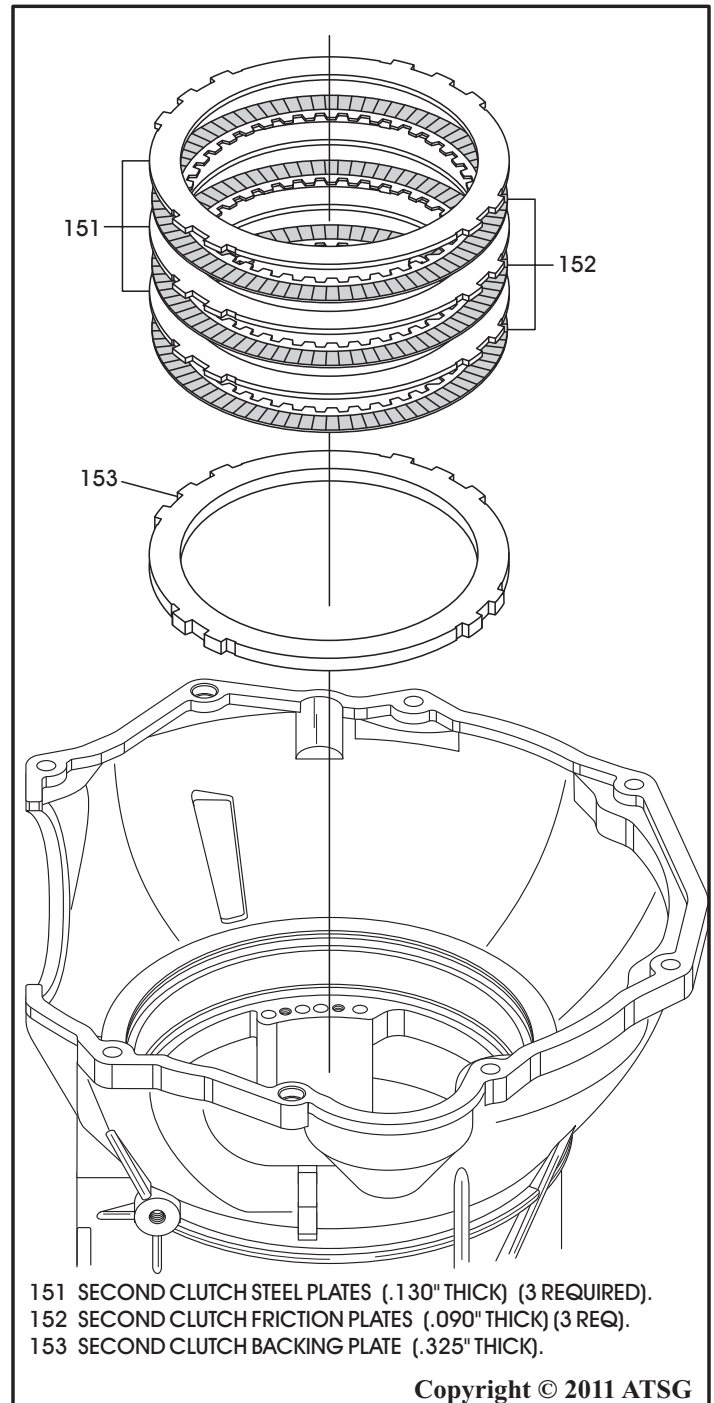

Figure 49
34. Remove the 2nd clutch pack, 3 steel plates and 3 friction plates, as shown in Figure 49.
35. Remove the 2nd clutch backing plate from the case, as shown in Figure 49.